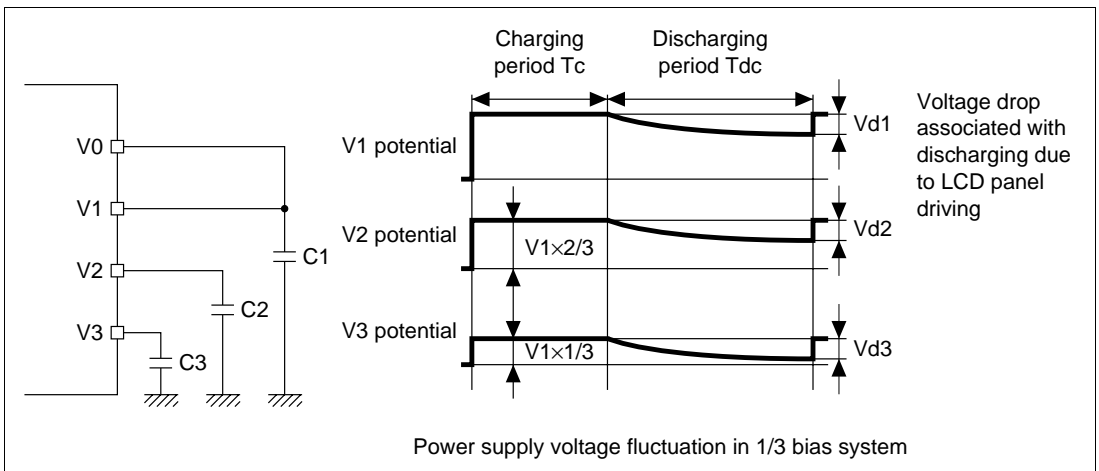

Figure 13-14 Example of Low-Power-Consumption LCD Drive Operation
1. Capacitors are connected as external circuits to LCD power supply pins V_1 , V_2 , and V_3 , as shown in figure 13-14.
2. The capacitors connected to V_1 , V_2 , and V_3 are repeatedly charged and discharged in the cycle shown in figure 13-14, maintaining the potentials.
1. During charging period T_c in the figure, the potential is divided among pins V1, V2, and V3 by the built-in split-resistance (the potential of V2 being $2/3$ that of V1, and that of V3 being $1/3$ that of V1), as shown in figure 13-14, and external capacitors C1, C2, and C3 are charged. The LCD panel is continues to be driven during this time.
4. In this way, the capacitors connected to V1, V2, and V3 are repeatedly charged and discharged in the cycle shown in figure 13-14, maintaining the potentials and continuously driving the LCD panel.